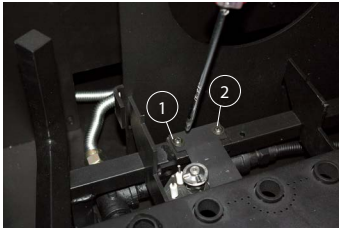

Figure 20. (Pilot mounting machine screws).
Step 2. Remove the two (2) machine screws that hold the Pilot Assembly in place, **Figure 20.** (*Philips head screwdriver required*).
Step 1 & 2. Figure 20. (*Pilot mounting machine screws*).